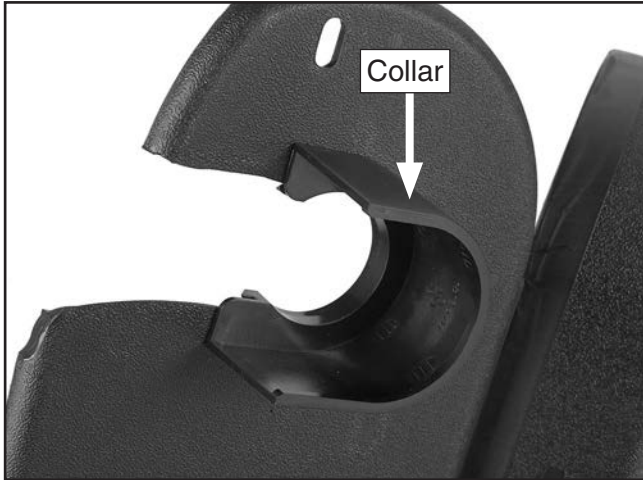

Figure 18. Collar installed.
10. Slide collar onto bottom side of pulley cover and snap in place, as shown in **Figure 18**.